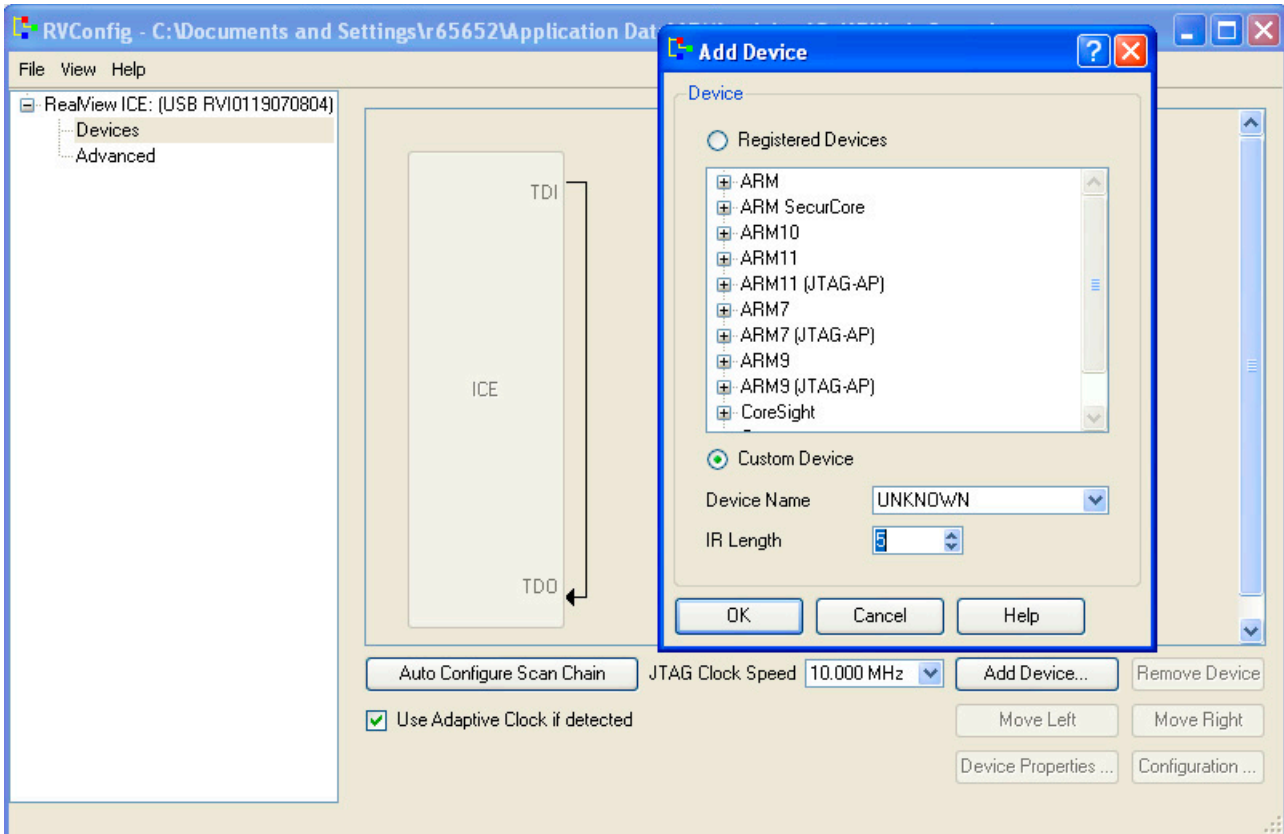

Figure 8-1. Example of Adding a Device
2. Using the order shown below, configure the scan chain with the following connections: TDI → Unknown → Unknown → ARMCS-DP → Cortex-A8 (see Figure 8-1).